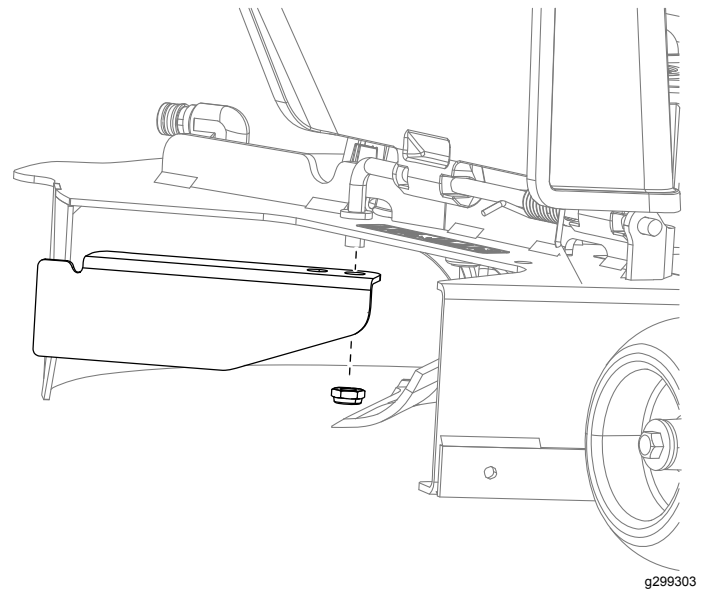

Figure 18
- For 50-inch decks, remove the existing baffle from the machine (Figure 18).